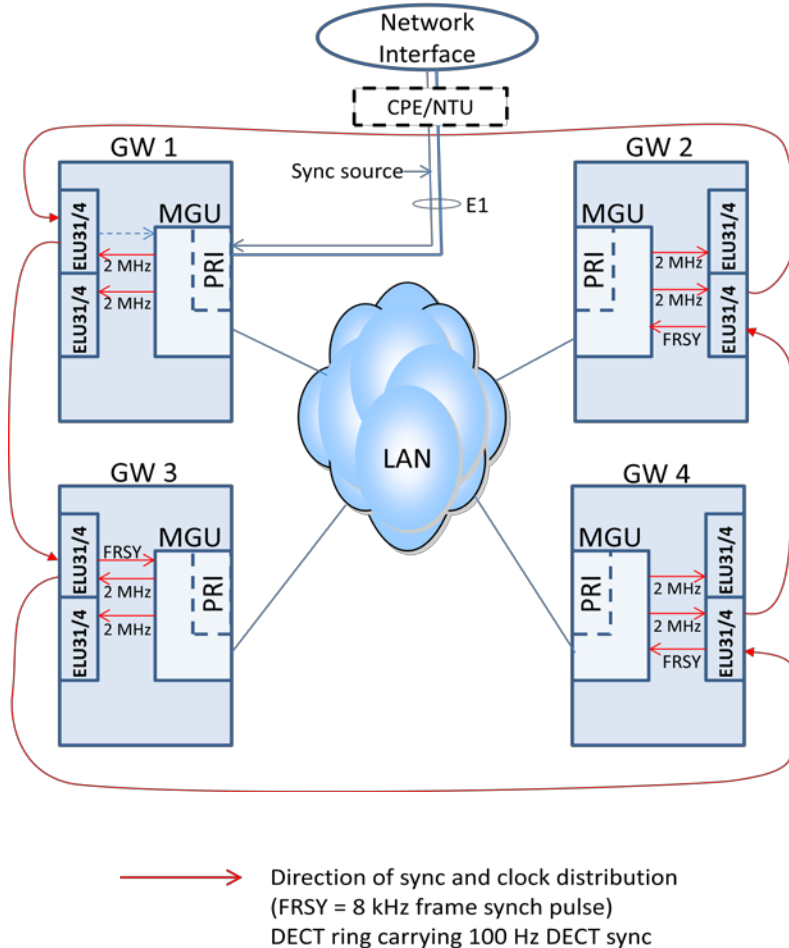

Figure 1
- In figure 1 the boards in GW1 can receive the reference timing from the MGU clock or the PRI trunk in GW1. However, if you have a PRI/BRI clock source with good quality it shall be used as reference timing source in first hand. The ELU31/4 board in GW 1 is configured to distribute both System sync and DECT sync to next GW (GW 2). The ELU31/4 DECT ring board in GW 2 is configured to connect System sync and DECT sync to GW 2 and distribute System sync and DECT sync to next GW (GW 3) etc. The other GW's (2 – 4) are synchronized to MGW 1 via the RS.422 DECT synchronization cable and the ELU31/4 boards.